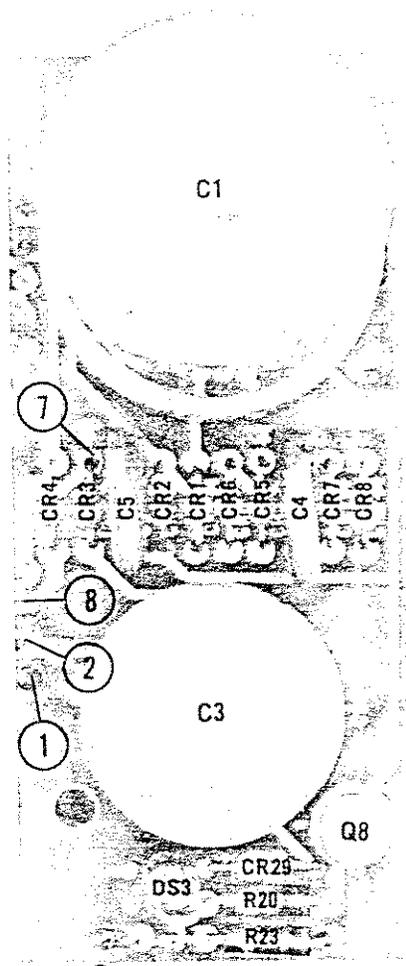

Figure 7-1. Input Printed Circuit Board Component Location
- a. Component Location Diagrams, Figures 7-1 and 7-2, which show the physical location and reference designator of parts mounted on the printed wiring board.